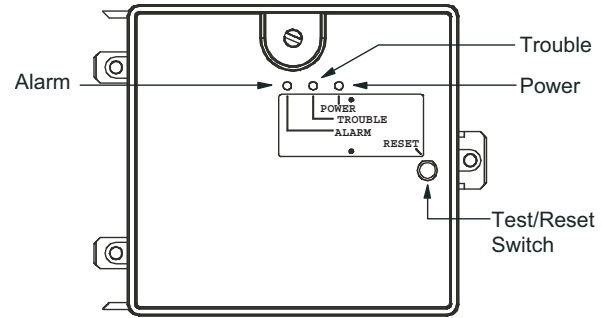

Fig. 45 — Controller Assembly
- The contacts on the controller's supervisory relay switch positions. (See Fig. 45.)